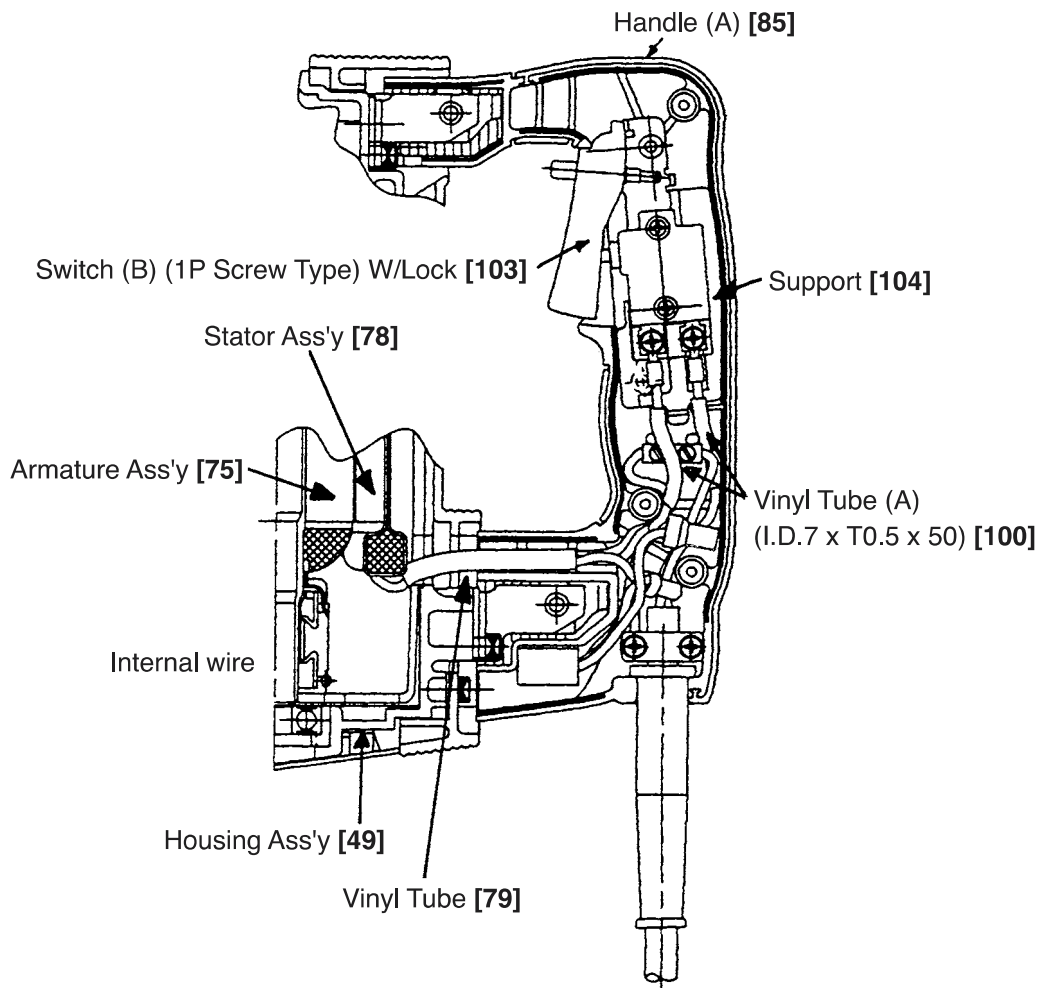

Fig. 7
(5) Safety precautions in wiring work: (See Fig. 7.)